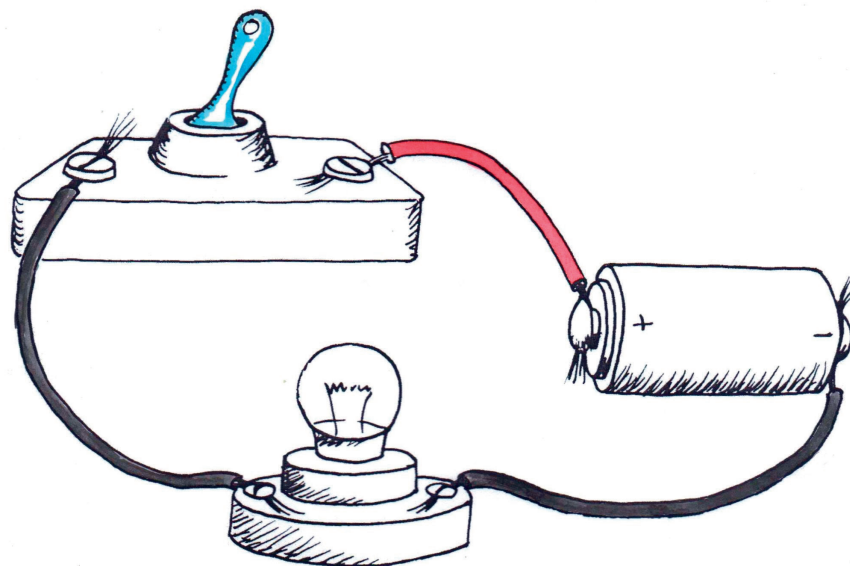

Figure 3
2. How do you think you can see if the circuit in Figure 3 is working?